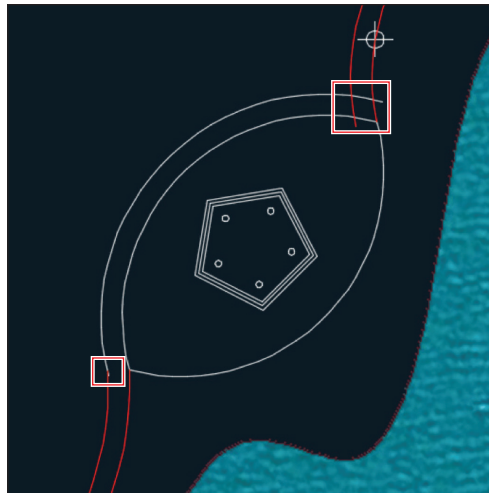

FIGURE 5.5 Trimming polylines and arcs
10. Click the Trim tool in the Modify panel. Press Enter to select all objects as potential cutting edges, and click the portions of the arcs that overlap in the top highlighted area in Figure 5.5. Zoom into the lower highlighted area, and trim the arcs at their tips so that they meet at their endpoints. Press Esc to end the TRIM command.